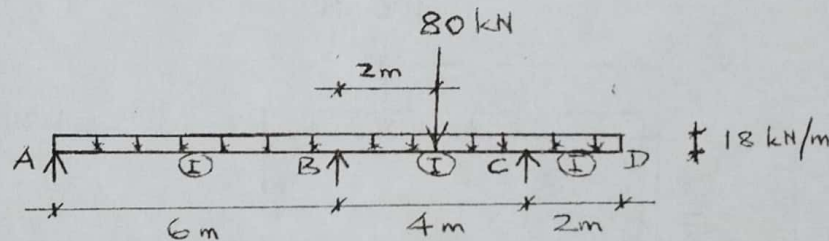

Figure 2
i. determine the support and span moments for the beam in Figure 2; and
Using Kani's method of structural analysis, determine the end and midspan moments for the continuous beam in Figure 2. Use 5 iteration cycles.